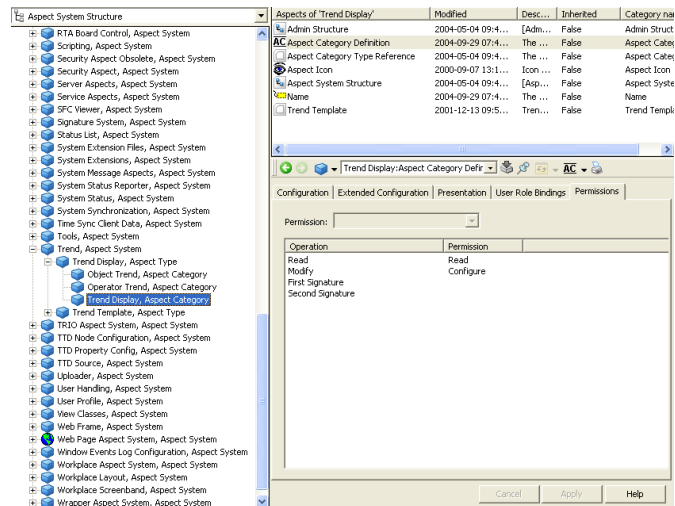

Figure 29. Aspect System Structure - Trend Display Aspect Category
Set the given permission for the Trend Display Aspect Category in the Aspect System Structure to Tune, see Figure 29. Ensure that normal operators have the
3. Change the required permission Configure (for the operation Modify) to the newly created permission TrendConfig for the Trend Display Aspect Category in the Aspect System Structure, see Figure 29.